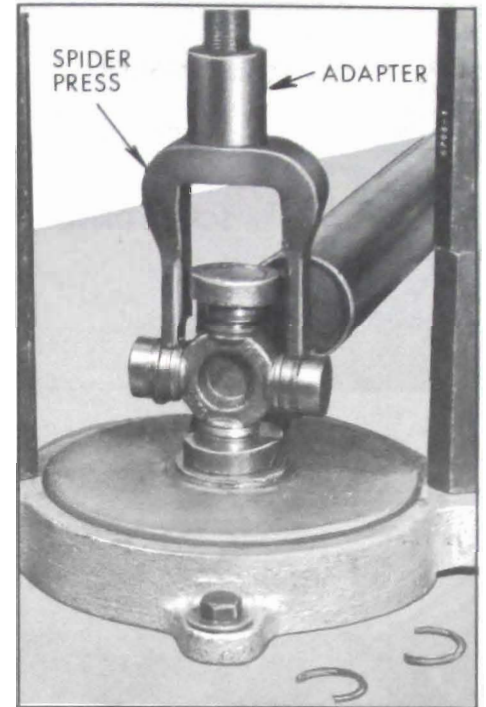

Figure 6-62—Pressing Out U-Joint Bearing
2. Set up J-6180-01 Power Ram and J-6207 Hydraulic Pump in preparation for removing the propeller shaft bearings. With this use Axle Bearing and Retainer Replacer J-8853 as a base plate. Attach Adapter J-9522-2 onto the ram screw. See Figure 6-62.
universal joint into the fixture as set up in Step 2 with a bearing over the hole in Replacer J-8853. Install Spider Press J-9522-4 on spider. See Figure 6-62.